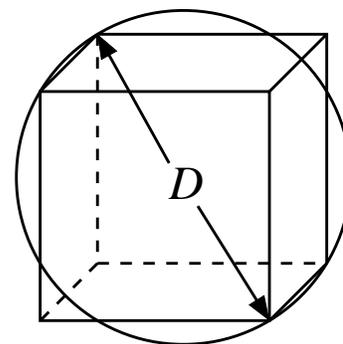

Figure 3: *Thermocouple.*
5. (10 pts) A thermocouple of main length dimension  $D$  is to be designed and constructed. In this particular problem, there are 2 choices: a spherical shape, where the diameter is  $D$ , or a cube shape, where the “superdiagonal” (distance between opposing corners) is  $D$  (Fig. 3). The main design criterion in this problem is that responsiveness of the thermocouple should be maximized (i.e. response time minimized). Either design will be fabricated from the same material (same thermal conductivity  $k$ , same specific heat  $c$ , same density  $\rho$ ) and operate in the same environment, i.e. in a fluid of freestream temperature  $T_\infty$ . If, as a first approximation, we assume both designs have the same convection coefficient  $h$  and both have a low Biot number, determine which is the better design and why.